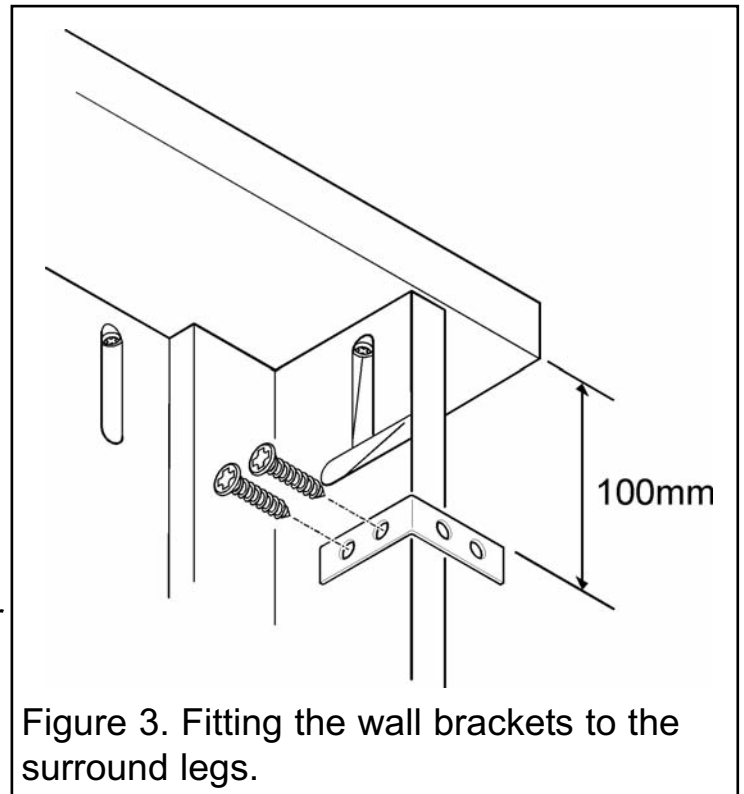

Figure 3. Fitting the wall brackets to the surround legs.
Place wall fixing brackets (D) 100mm from the top outside edge of the legs as shown in figure 3. Secure in place using four screws (E).